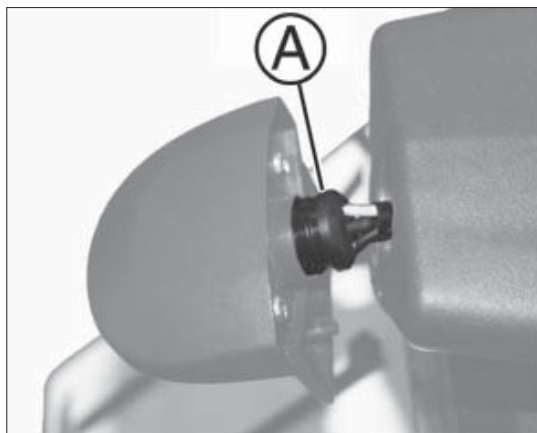

fig. 5
- remove the complete bulb-bulb holder assembly A fig. 5 from the plastic cover;
- install the bulb-bulb holder assembly A fig. 5 inside the plastic cover;